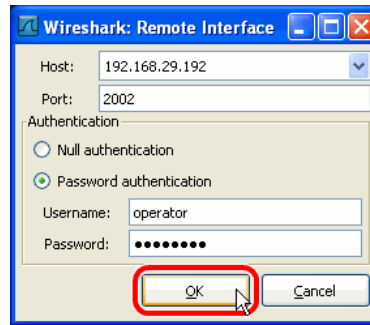

Figure 137: Wireshark Remote Interface Dialog.
4. Enter the correct settings for **Host** and **Port** (default 2002) and, if authentication is enabled, enter **Username** and **Password** in the corresponding fields as shown in Figure 137.